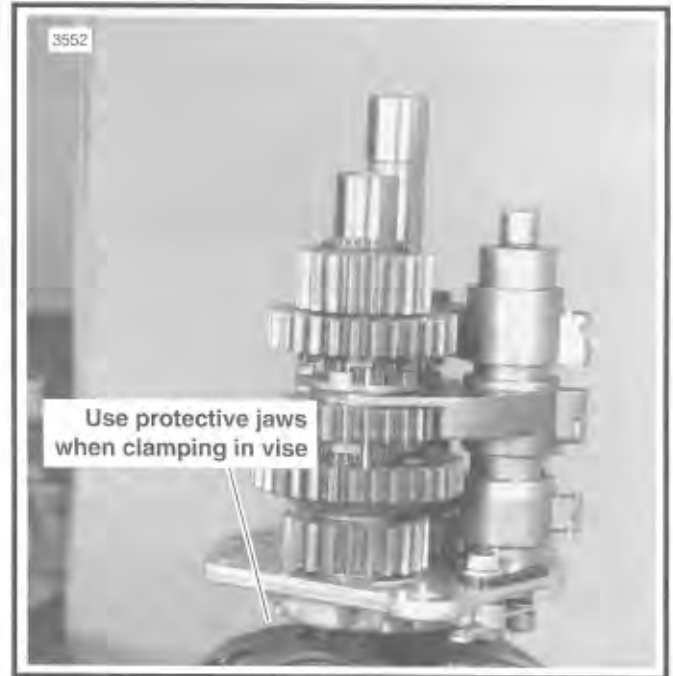

Figure 6-27.
1. See Figure 6-27. Clamp transmission assembly in vise, with protective jaws, as shown, to work on disassembly.